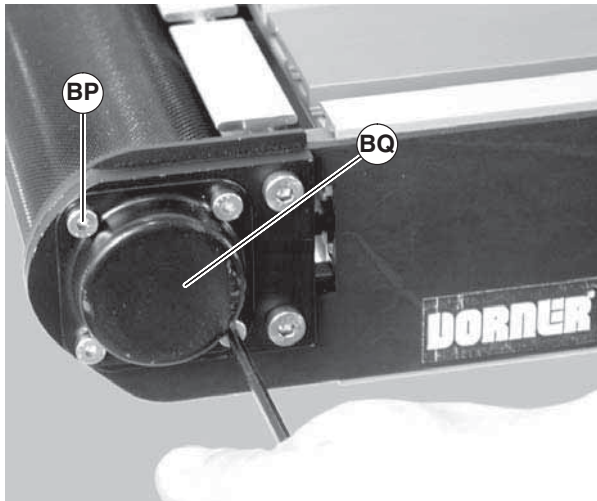

Figure 48
4. Remove four shaft cover screws (Figure 48, item BP). Remove the shaft cover (BQ).